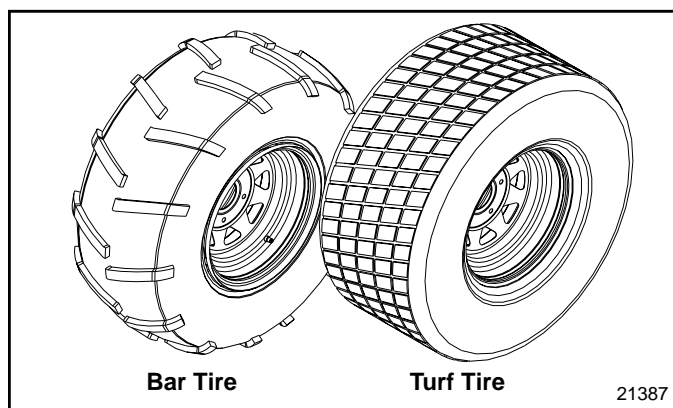

figure 5-1
*Refer to figure 5-1*
There are two types of tires available for your Land Pride Gondo. See figure 5-1. Both are 4-ply rated. The Bar Tire with its chevron bars is a good tire to choose when traction is your first priority. This tire is a tough tire for going over rough terrain. The Turf Tire is a good selection when one wants to preserve the terrain being traveled over. Golf courses, parks and other maintained areas make the Turf Tire an excellent choice.